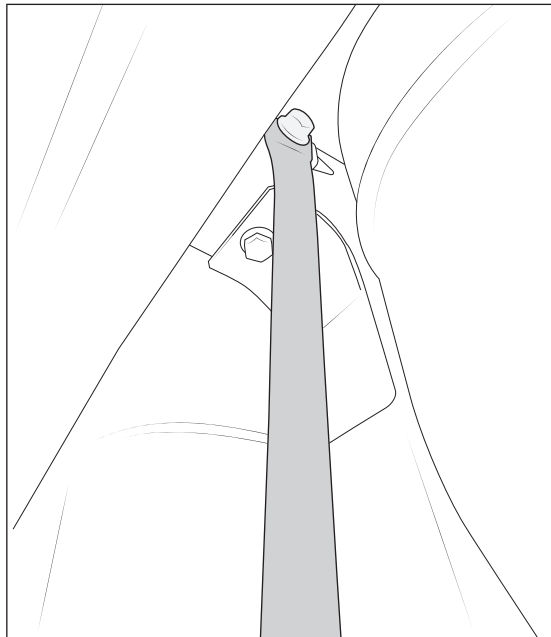

Figure 7
- Loosely install the final pencil brace, part number AT1P0146, to the frame with an M8 bolt (fig. 7).